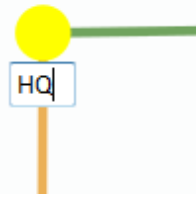

Figure 52 Custom Node Naming
- Custom Node Naming** – Naming each node in the network is as simple as double-clicking on the node name and typing in a new name as shown in **Figure 52**. Once this is done, the user need to hit enter to keep the node name. Otherwise it will change back to what it was. This feature enables quick identification of nodes in the field and is especially useful in mission critical situations with many mobile assets. The user can click on the ‘Save Labels in Flash’ button in the left pane to store the node names to the radio’s flash memory. This will store the names on the radio even after the radio is powered off. The saved labels can also be cleared back to the defaults by clicking ‘Clear Labels in Flash’. The node labels set in one radio can also be broadcasted to other radios in the network by clicking the ‘Broadcast Node Labels’ button.